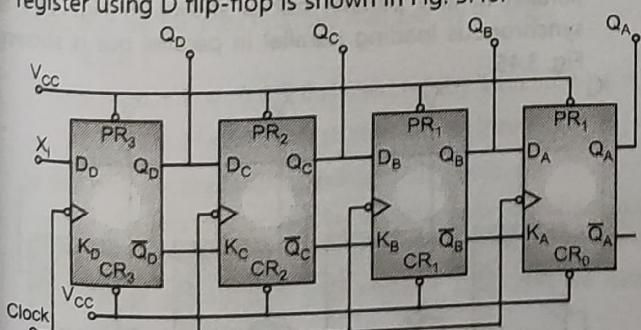

Fig. 3.40
- The logic diagram of four-bits serial in parallel out shift register using D flip-flop is shown in Fig. 3.40.